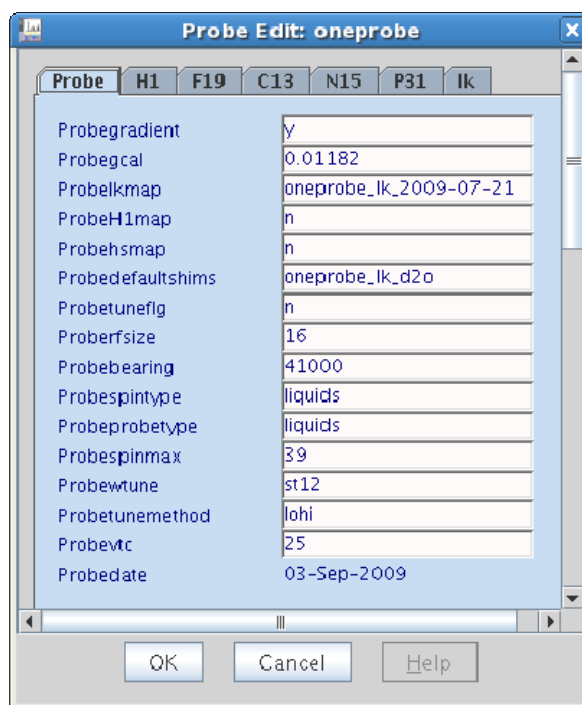

Figure 13 Probe File Edit Window
4. Do one of the following (refer to Figure 13 as needed):
- Click to check the **Edit** button — editing options appear in the Probe window, see Figure 13.